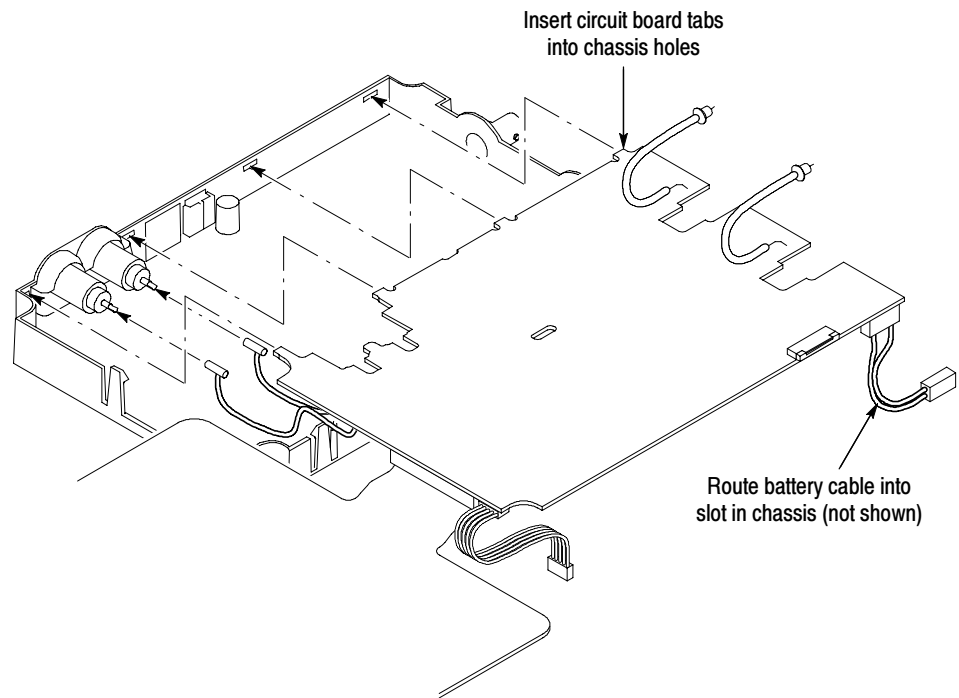

Figure 26: Reassembling the chassis
- e. Insert the four tabs on the left side of the main board into their rectangular holes in the chassis as shown in Figure 26.